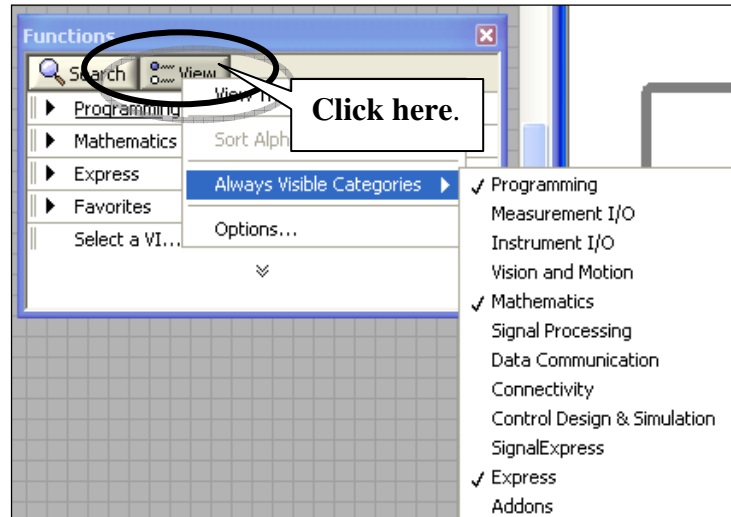

Figure 6. Selecting and deselecting function groups.
- iii) You could select or de-select “Function Groups” (e.g. Mathematics, Express, etc.) by checking or un-checking the items under the **[View]→[Always Visible Categories]** submenu, as shown in Figure 6.